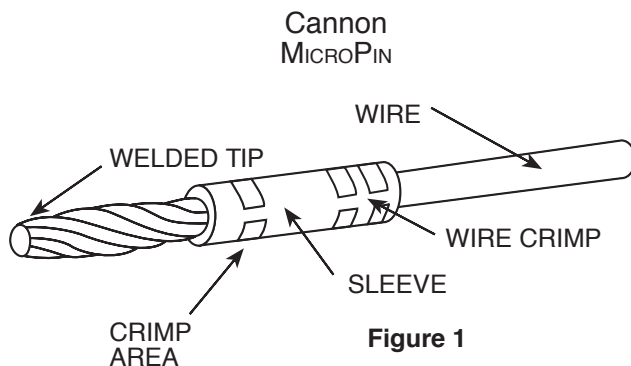

Figure 1
*Figure 1 - The Twist Pin Contact System consists of several stranded cores making up the wire bundle. The strands are subsequently heat treated and a weld is performed on the tip of each contact. Crimp sleeves are then inserted over the contact and crimp areas are defined to produce a seamless crimp system. The Twist Pin Contact System is referred to by ITT Cannon as a Pos-A-Line contact alignment system. Our reference to this system identifies that the flexible Twist Pin is recessed into the insulator and the rigid socket is exposed thus reversing the traditional positions of the pin and socket. During the mating sequence, the socket is guided into the pin insulator by the lead-in chamfer. The pin is kept from flexing beyond the socket capture radius by the walls of the cavity. The hemispherical weld of controlled radius at the tip of the pin combines with the lead-in chamfer of the socket contact and the pin insulator to cam the pin in alignment. ITT Cannon has developed a very robust Six Sigma manufacturing process that controls the welding process as well as the dimensions of the socket contact and insulator material. The net result is a contact system that makes it impossible for the recessed pin to escape the socket capture radius.